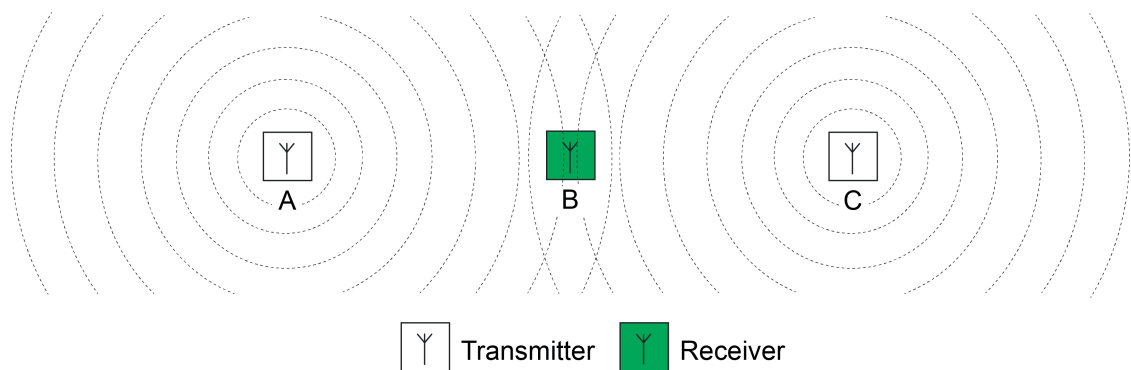

Figure 8: Radio collisions on the receiver due to the transmitter being too far away
The described transmission method for controlling media access generally prevents radio collisions in a KNX RF environment, but cannot exclude them completely. For example, it may occur that, in the case of a transmission between an RF transmitter (A) and an RF receiver (B), there is an additional RF transmitter (C), which is located within the range of the RF receiver, but cannot reach the other RF transmitter due to the spatial distance (Figure 8). In such a case, the two RF transmitters are unable to detect when the other transmits radio signals (Hidden Station Problem). In consequence, radio collisions can occur on the receiver located in the range of the two RF transmitters.